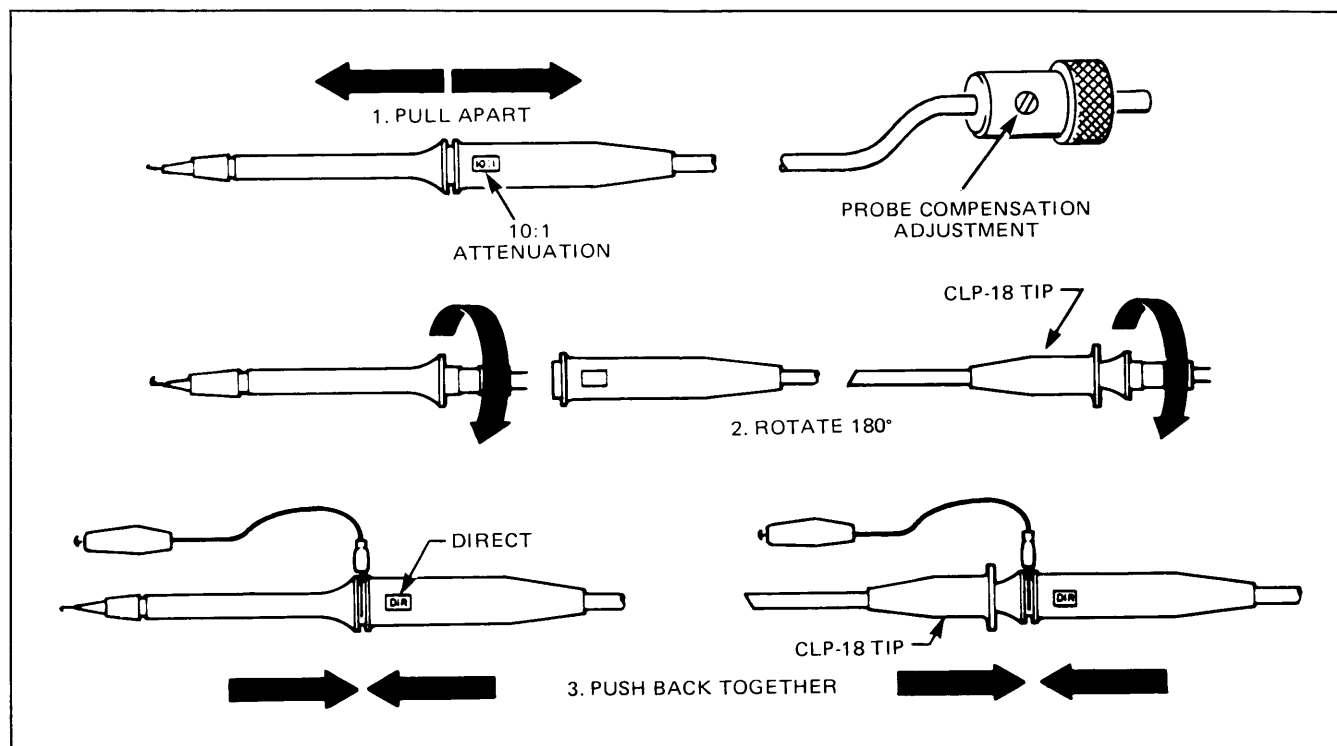

Fig. 3. Probe details.
33. Probe (see Fig. 3). The B & K-Precision Model PR-35 combination 10:1/Direct probe has been designed for use with this oscilloscope. However, any probe designed for use with an oscilloscope having a nominal input impedance of 1 megohm shunted by 27 pF and capable of operation up to 15 MHz, can be used.
2. For all except low-amplitude waveforms, the probes are set for 10:1 attenuation. For low-amplitude waveforms (below 0.5 volt peak-to-peak), set the probe for **DIRECT**. See Fig. 3 for changing the probes from 10:1 to **DIRECT**, or vice versa. The probe has a 10 megohm input impedance with only 18pF shunt capacitance in the 10:1 position and 1 megohm with 120 pF shunt capacitance in the **DIRECT** position. The higher input impedance (low-capacity position) should be used when possible, to decrease circuit loading.
3. If the recommended **B & K-Precision Model PR-35** oscilloscope probes are used, 10:1 attenuation should be used except for waveforms of 0.5 volt peak-to-peak or less. For the lower amplitude waveforms the DIRect position should be used. See Fig. 3 for changing the probe from 10:1 to DIR or vice versa. Whenever possible, use the high impedance, low capacity 10:1 position to minimize circuit loading.